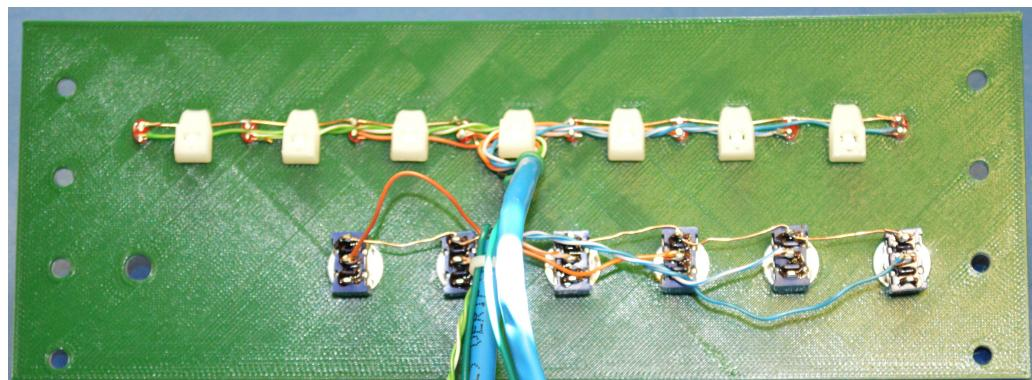

Figure 2.9: Control Panel with Switches and LEDs Installed and Wired
- Finally, install the LEDs in the panel as described in Section 2.3.6 and shown in Figure 2.9.